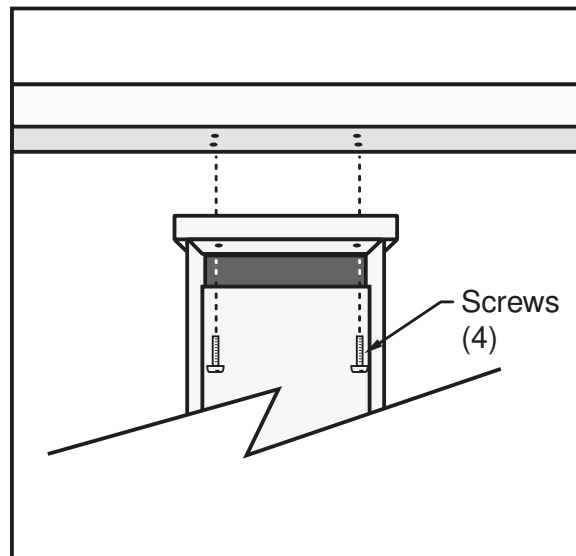

FIGURE 6-7. WS-PRO2 crossarm mounting
The crossarm needs to be installed after the enclosure is mounted on the pole. You may need to temporarily remove the communications option. Mount the crossarm as shown in FIGURE 6-7 (p. 21) without the wind sensor attached.
4. Attach the arm to the enclosure by inserting and tightening four Phillips head screws (FIGURE 6-7 (p. 21)).